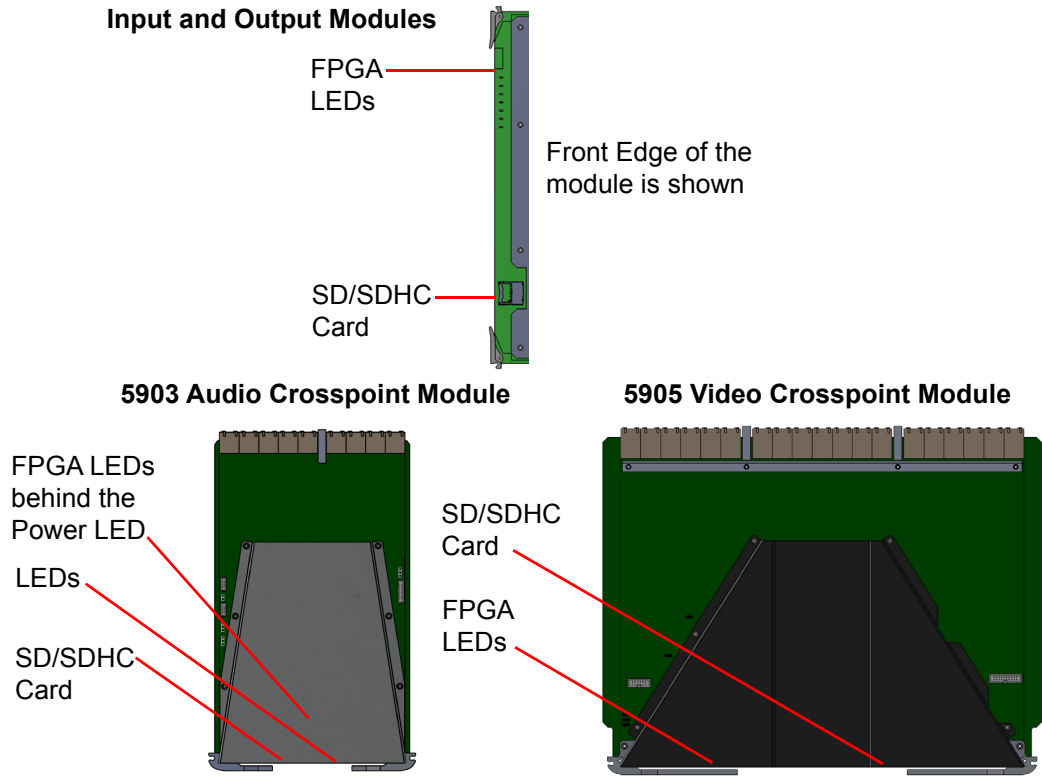

Figure 35 LED and SD/SDHC Card Locations
- The FPGA LEDs on the module will indicate the stage the firmware upgrade has reached as it is applied to the module (see Figure 35 for FPGA LED locations and Table 15 for LED status).